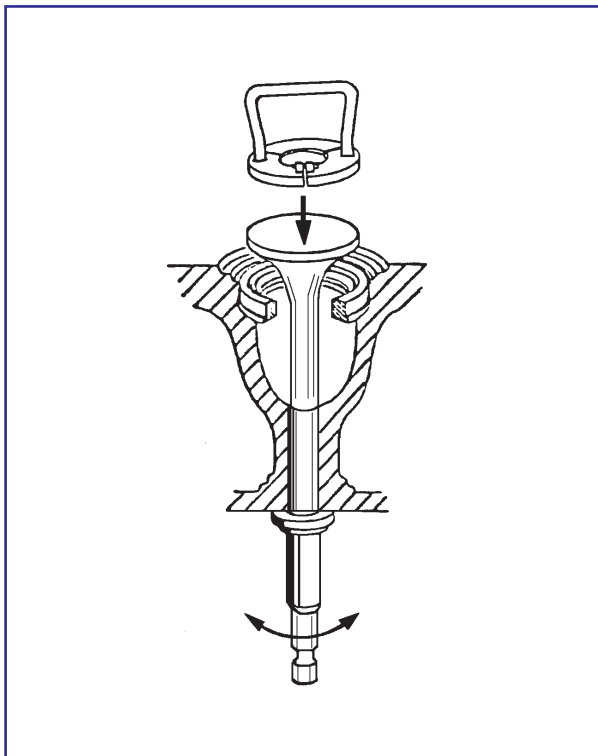

Fig 4
- 9) A slight grinding of valve/valve seat can be carried out by means of the handle as shown, see fig 4.